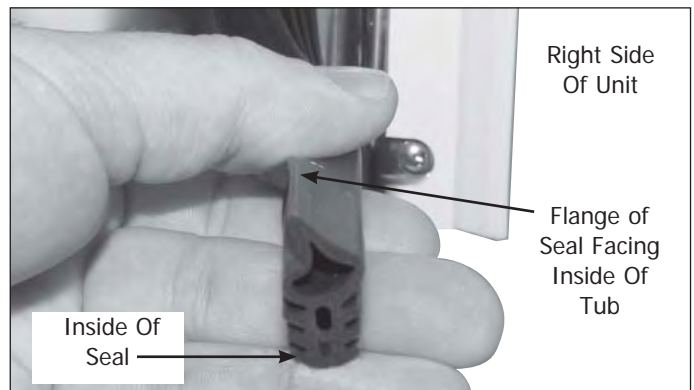

Figure 4-16.
1. To remove the door seal, open door and pull free from the channel around the tub. (See Figure 4-16)